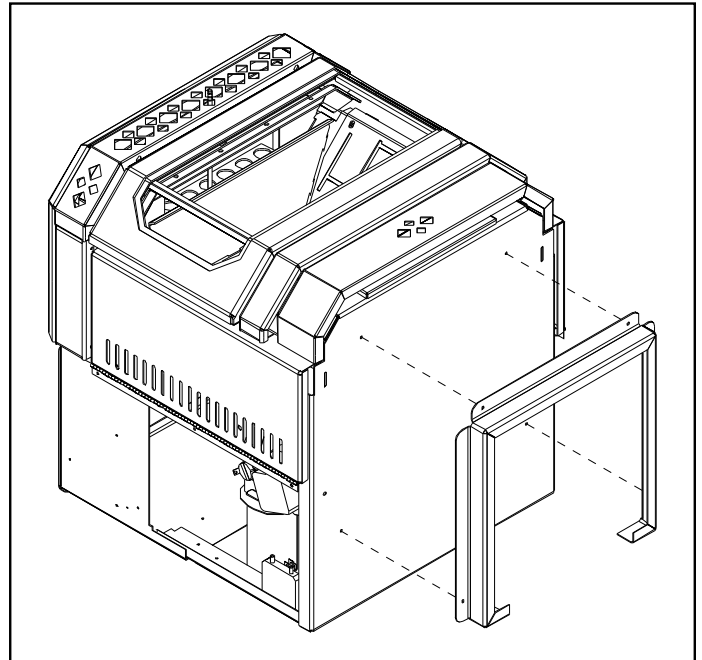

Figure 8: Installing pedestal onto unit.
4. Back the four (4)  $\frac{5}{16}$ " hex head screws in the base off three (3) to four (4) full turns.
5. Secure the pedestal to the unit by tightening the four (4)  $\frac{5}{16}$ " hex head screws around the outside of the pedestal (see Figure 8).